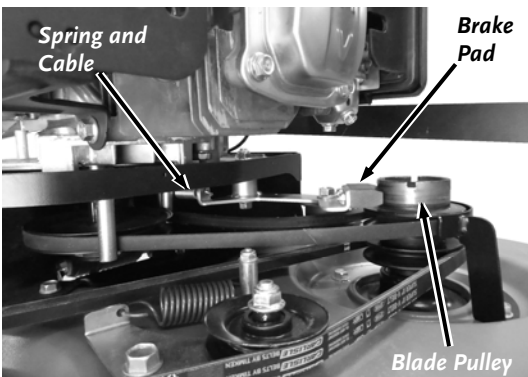

Figure 36
3. With the Blade Engage Bail Bar released, ensure that the Brake Pad is resting against the Blade Pulley and the Cable going from the Console to the Bail Bar has a small amount of play (is slightly loose). (**Figure 36**).